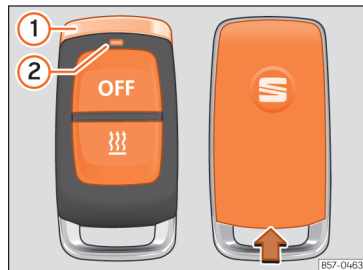

Fig. 93 Auxiliary heating: radio remote control.
When the buttons are pressed, the LED on the remote control »» Fig. 93 ② gives the user a range of information:
- Secure the remote control with the chrome pin »» Fig. 93 ① vertically facing upwards.
- Insert a suitable tool, e.g. a screwdriver, into the indentation in the remote control housing, in the direction of the arrow »» Fig. 93.
- Slide the cover in the direction opposite to the arrow until it clicks into place »» Fig. 93.